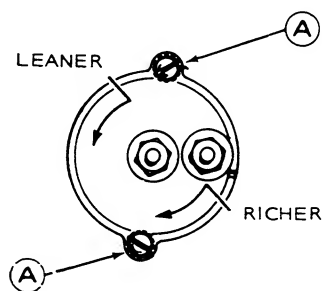

FIGURE 6. ELECTRIC CHOKE ADJUSTMENT
1. Loosen two outer screws at "A" (Figure 6).